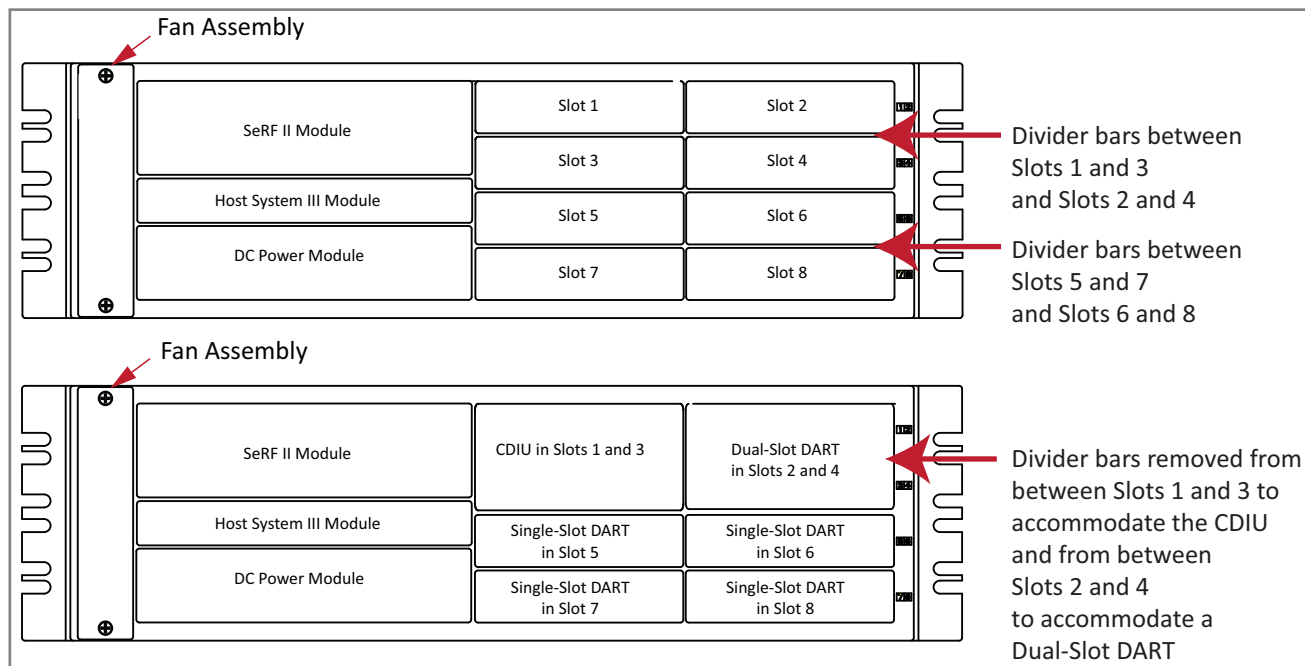

Figure 4. DART Slot Assignments in Host Unit Chassis
Figure 4 shows possible slot assignments and where slot-divider bars are located. Note that for Dual SuperDARTs and CDIUs you need to remove divider bars.
- 4 If necessary, remove the two Phillips head screws securing the slot-divider bar from between the two slots in which the RF DART Module will be installed, and then remove the divider bar from the chassis; reserve the divider bar and two Phillips head screws for future use (see Figure 4 on page 27).